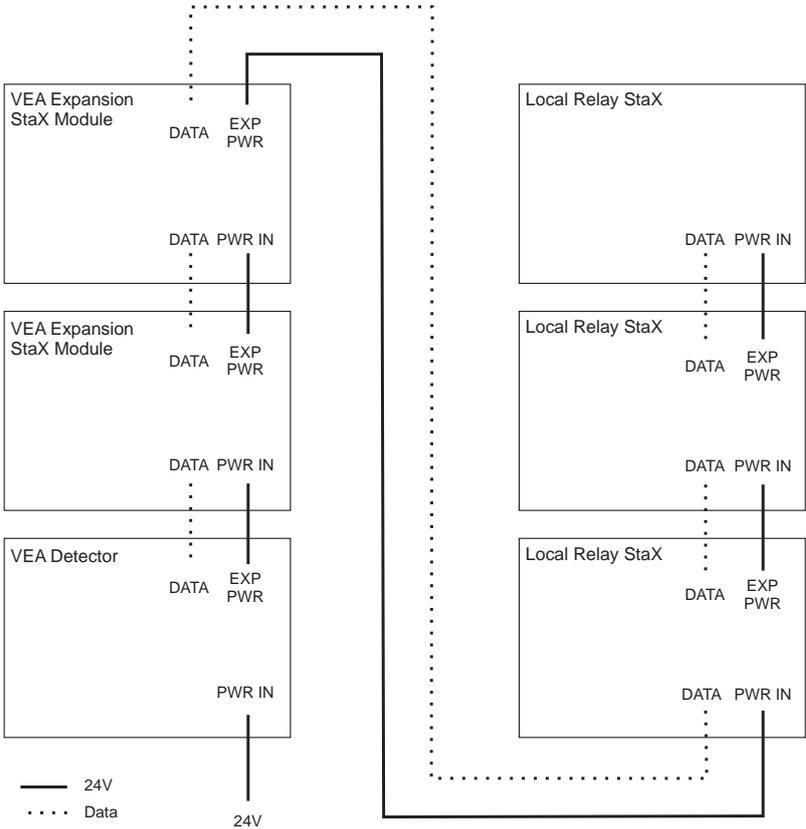

Figure 4-22: Multiple Module System
- Detector with multiple Local Relay StaX and Expansion StaX modules (Figure 4-22)